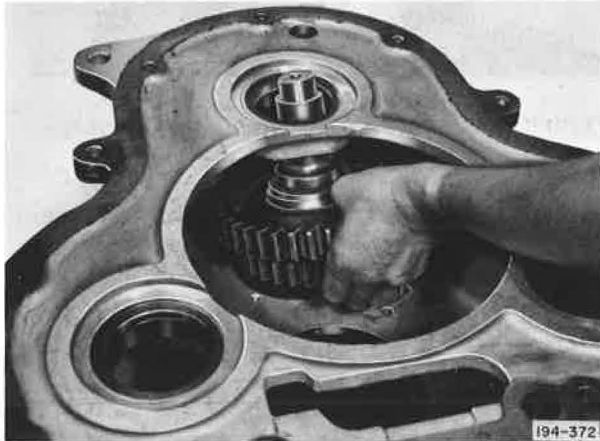

Figure 5-149. Removing Compound Countershaft Assembly
18. (TRDXL1070) Remove the three compound countershaft assemblies from case. See Figure 5-149.